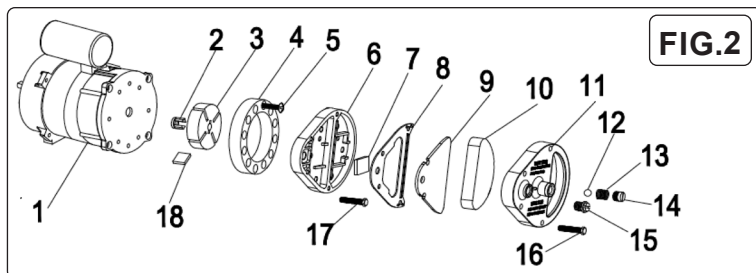

FIG.2
Clean air filters. Remove filter end cover (11), wash air intake filter (10) using a light detergent and dry it thoroughly before re-installing. Replace air delivery filter (9) once a year fig.2.